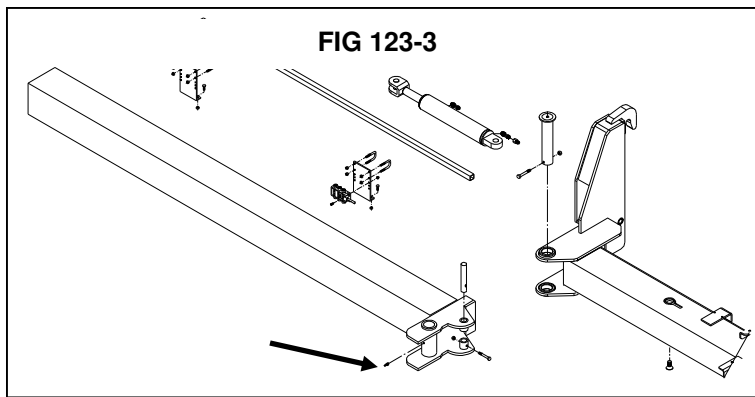

FIG 123-3
**OUTRIGGER FOLD-**The left and right outriggers have a grease zerk in the folding joint between the center tool bar and the either outrigger (fig. 123-3).